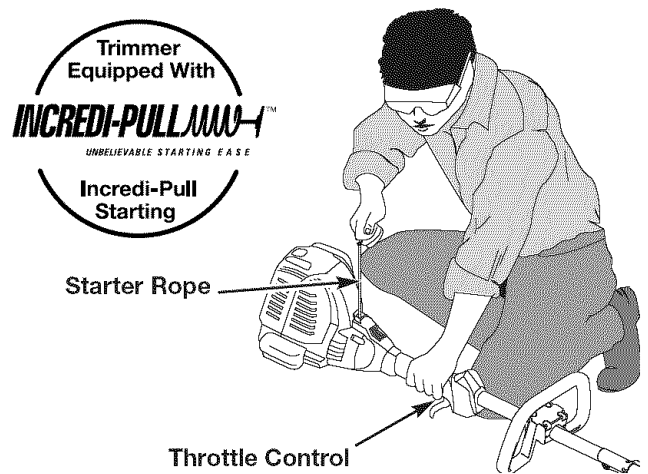

Fig. 8
WARNING: Avoid accidental starting. Make sure you are in the starting position when pulling the starter rope (Fig. 8). To avoid serious injury, the operator and unit must be in a stable position while starting.
4. With the unit in the starting position, **do not squeeze the throttle control** (Fig. 8). Pull the starter rope out a short distance, until you feel some resistance. This is usually around 2-4 inches. Then pull the rope smoothly and briskly. Repeat this 5 times. The engine should start.